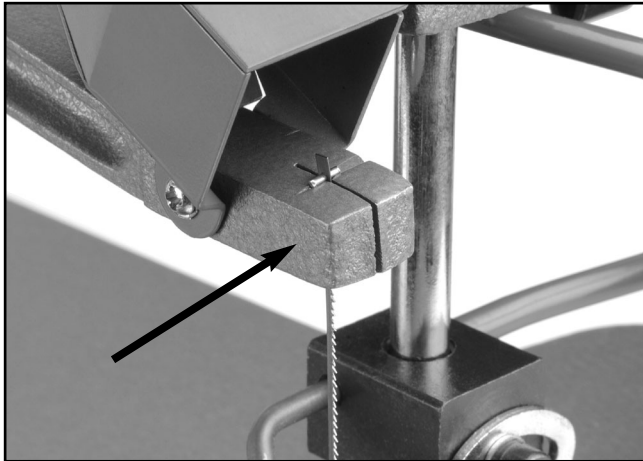

Figure 10. Upper Arm.
4. Push down on the upper arm shown in **Figure 10**, pull the upper end of blade out of the holder, push down on the blade to free the lower end of the blade, and pull the blade up to remove.